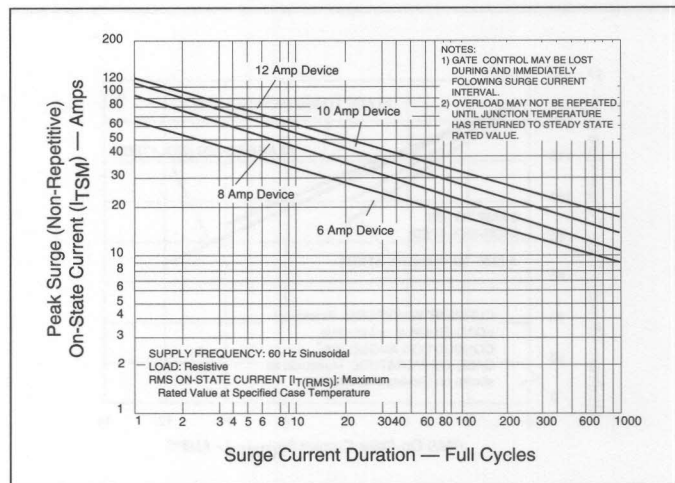

Figure 4.10 Peak Surge Current vs Surge Current Duration (6-12 Amp Devices)
- See Figures 4.10 and 4.11 for surge rating with specific durations.